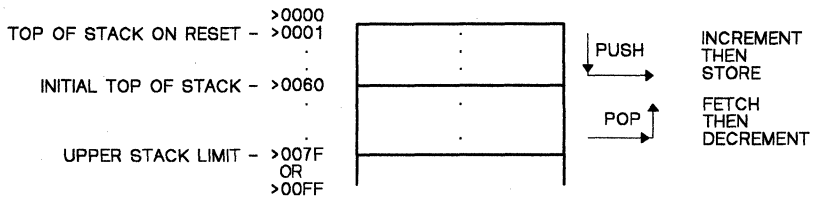

Figure 3-2. Example of Stack Initialization in the Register File
3.1.3 Stack Pointer (SP)
The **Stack Pointer (SP)** is an 8-bit CPU register that points to the top of the stack. The stack is physically located in the on-chip RAM, or RF. When the stack is used, the SP points to the last or top entry on the stack. During reset, the SP is loaded with >01. The SP is loaded from Register B (R1) via the LDSP instruction and initialized to any other value by executing a stack initialization program such as the one illustrated in Figure 3-2. This feature allows the stack to be located anywhere in the Register File. The SP is loaded into Register B via the STSP command. The SP is automatically incremented when data is pushed onto the stack and automatically decremented after data is popped from the stack.